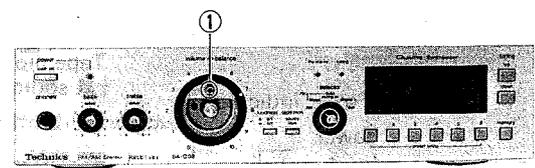

Fig. 1
2. Loosen the 1 setscrew (① in Fig. 1) used to fasten the cabinet cover.